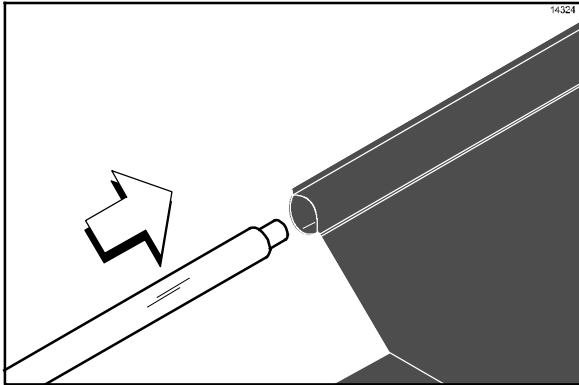

Figure 7
1. Slide the release material retention bar through the loop in the release sheet. (See Figure 7.)